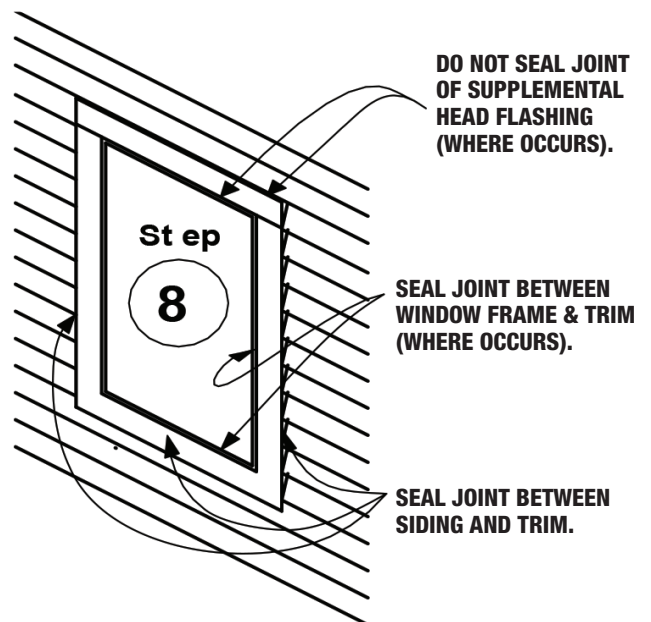

Figure 9 Install cladding.
Step 8. Install trim and/or exterior wall cladding around perimeter of window. Seal perimeter joints per the recommendations of the cladding and window manufacturers (see Figure 9).